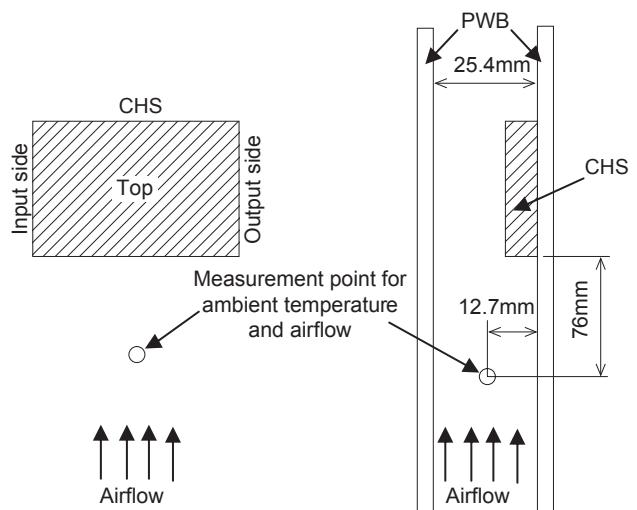

Fig.8.3 Measuring method
- Show the thermal curve with measuring as shown in Fig.8.3.